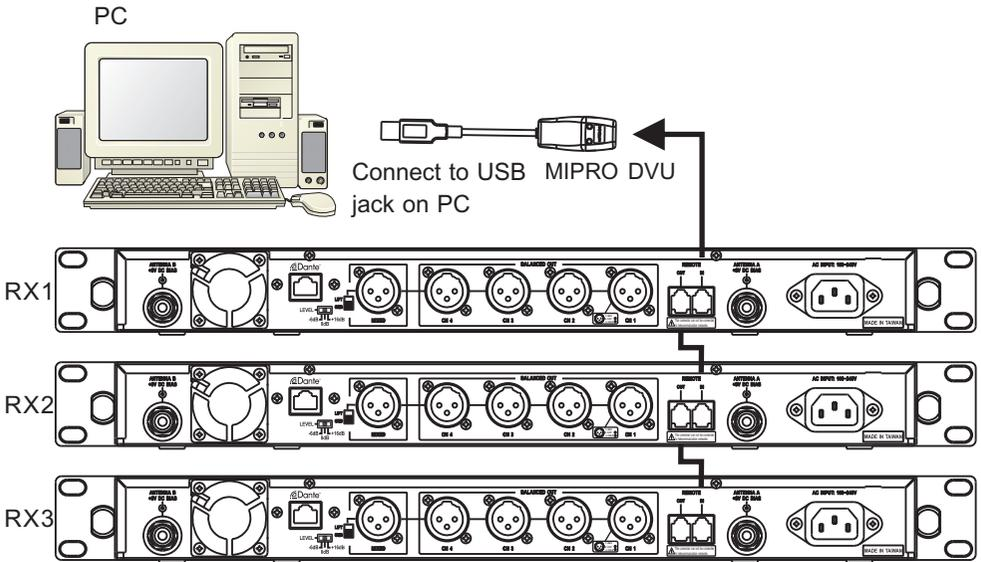
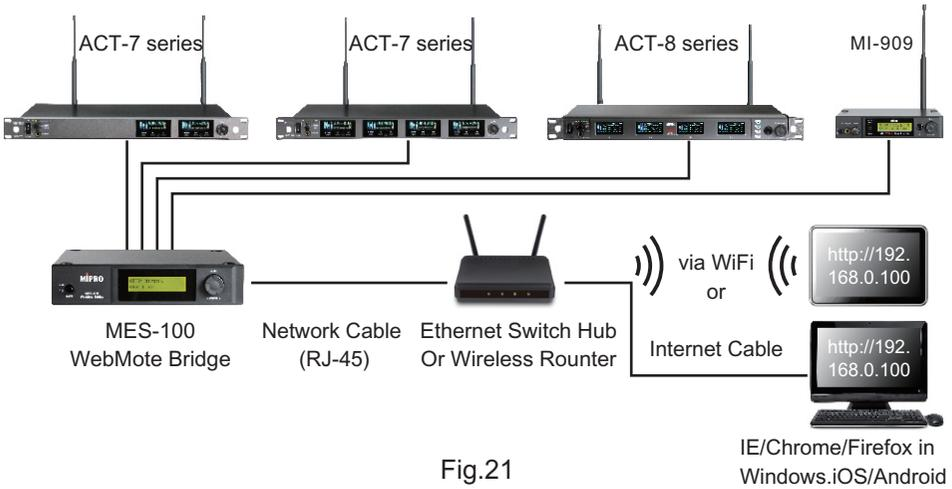

Fig. 20
Fig.21
2. MIPRO DV Wiring Instructions, Fig. 20:
- (A) Use supplied hardware cable for serial connection to MIPRO receivers and PC network interface connector ⑬ .
- (B) Next, use an USB connector to link receivers input interface connector to a computer USB PORT, Fig. 20:
- (C) Up to 64 receiver channels can be connected, remote-controlled and monitored.
- (D) The network cable length can be connected up to 300 meters, but the longer it is, the transmission quality will be more unstable. The ideal cable length for optimal transmission quality is less than 100 meters.
3. MES-100 Wiring Instructions, Fig. 21: (for optional MES-100)